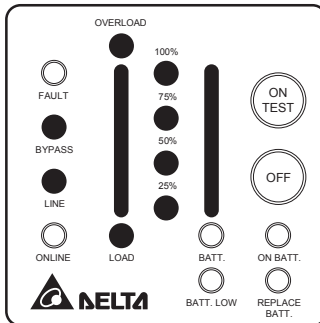

Fig 4-5 Overload and UPS turn into Bypass
- **OVERLOAD:** If the load exceeds the UPS rating, after a limited period, the over- load LED will light on and buzzer continuous beeping to alarm the user. The user should unplug some uncritical loads to release the overload condition. Shown as fig 4-5.